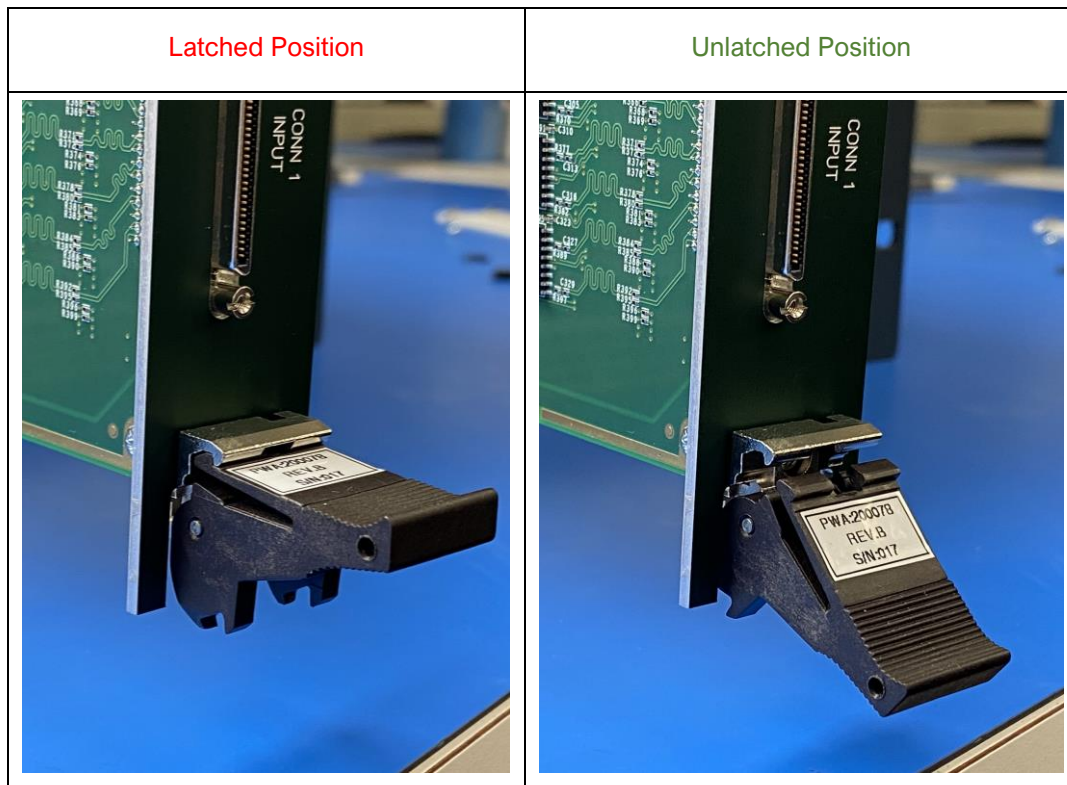

Figure 6. Ejector Handle Positions
- 4) The module can be installed into any of the 12 NI SLSC-12001 Chassis slots. Ensure that the ejector handle is in the unlatched (downward) position as shown in Figure 6. For this example, slot 6 is used.